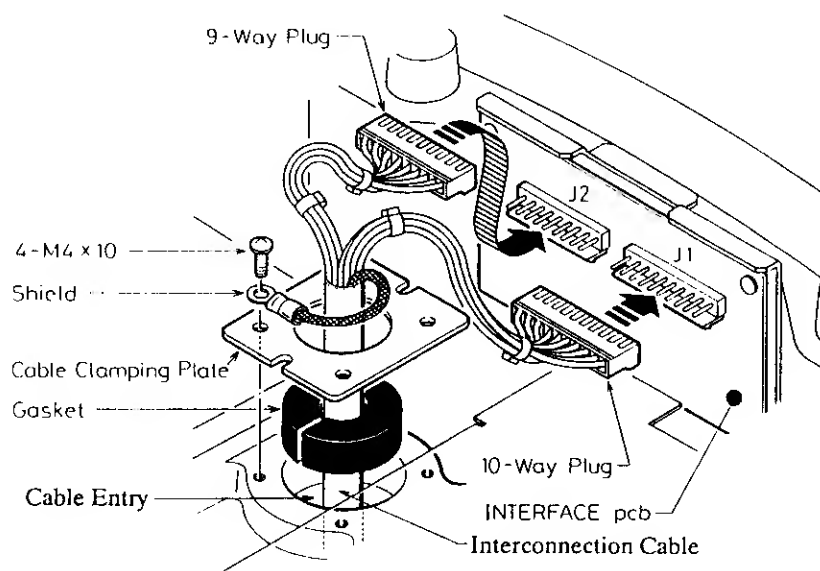

Figure 6-3 Cable Connection and Grounding
4. Secure the cable with the cable clamping plate and gasket. Ground the shield cable by using one of the fixing screws for the cable clamping plate. See Figure 6-3.